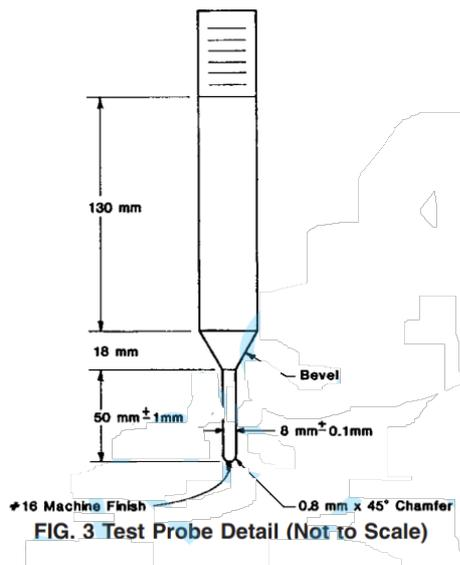

FIG. 3 Test Probe Detail (Not to Scale)
6.3 Solid Steel Rod, with a diameter of 8 ± 0.1 mm (0.315 ± 0.004 in.) having a flat end with a 45° chamfered edge contacting the test specimen's surface. See Fig. 1 and Fig. 3.